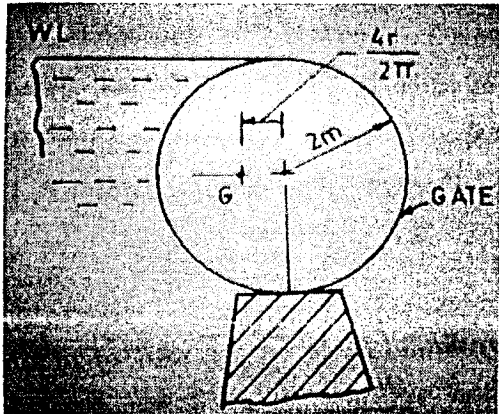

Figure 2
- (b) A roller gate as shown in figure 2 has a span of 5m. Determine the magnitude and direction of the resultant force on the cylinder when water just begins to over flow. Neglect weight of the gate. (4)